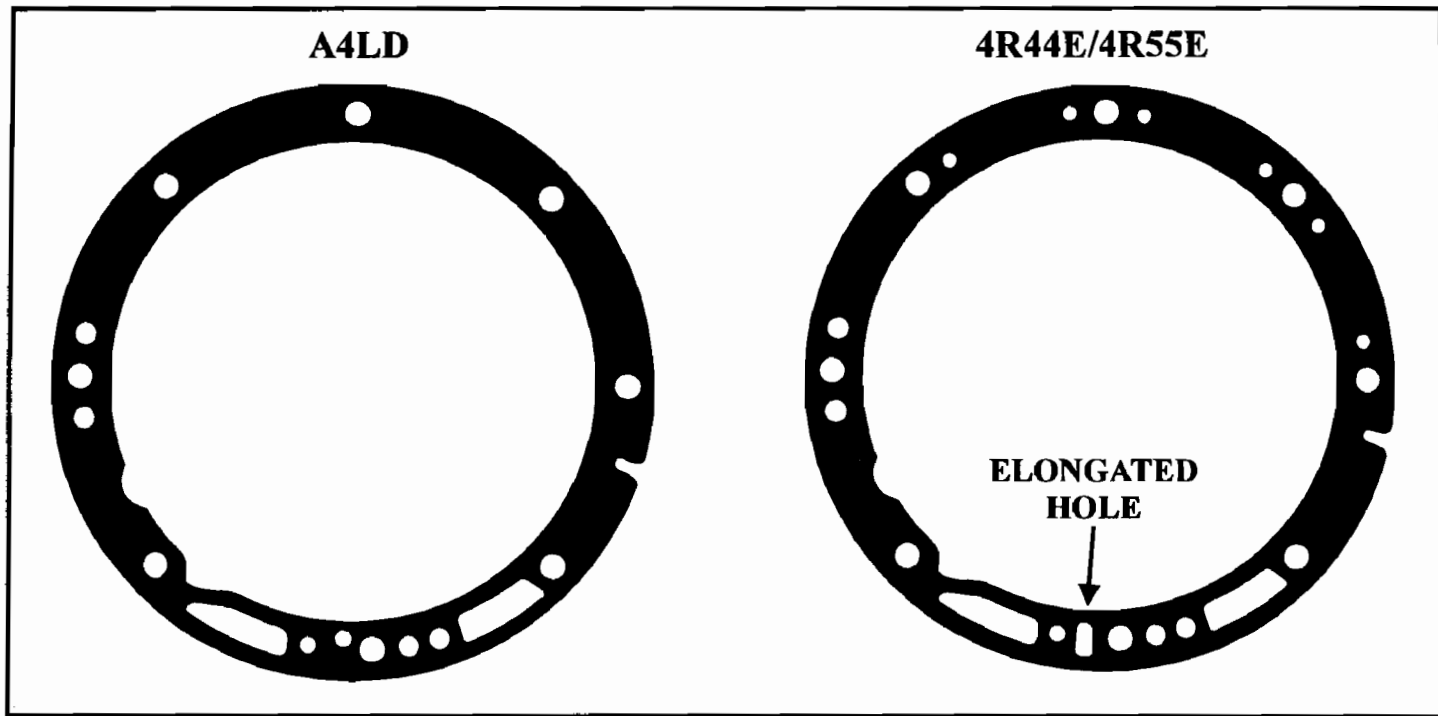

Figure 1
**Special Note:** The 4R44E/4R55E pump and bell housing components can be used on the A4LD transmission, *when all parts listed above are used as a package*. It is not recommended to install A4LD parts onto a 4R44E/4R55E transmission. Refer to Figures 1 through 5.